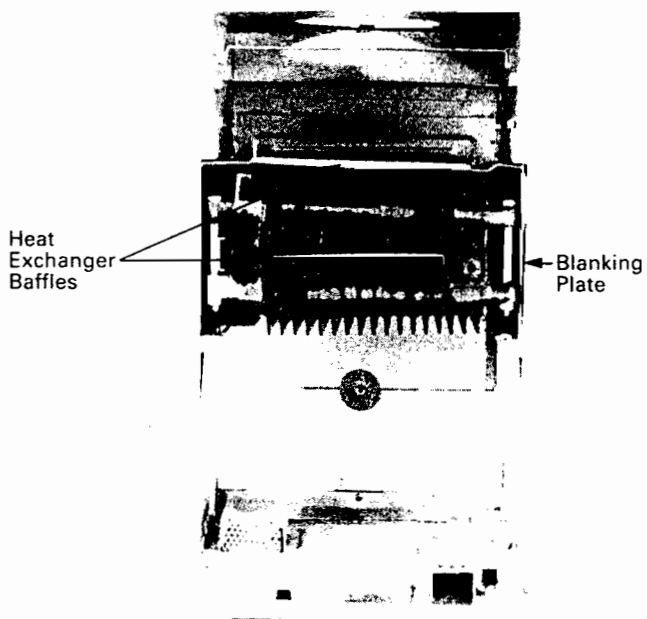

Fig. 3. Boiler Connections
Boiler Connections (Fig. 3)
- Slide out the baffles from between and above the heat exchanger castings and slide out the blanking plate (Fig. 3).